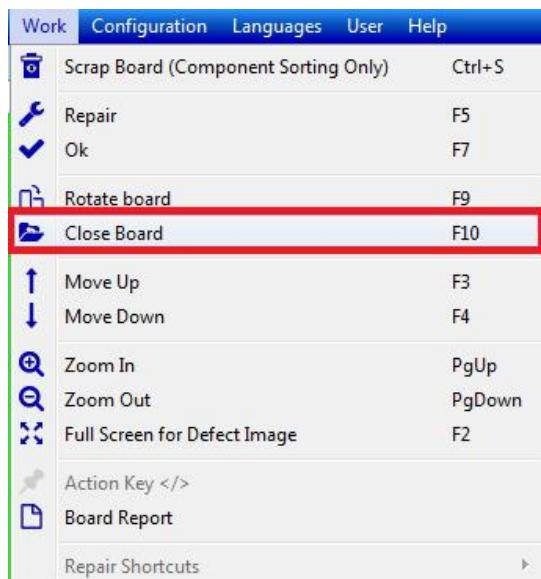

Figure 149 Close board using menu bar
I. Go to menu bar, **Work>Close board** and click **Yes** (refer Figure 149) or